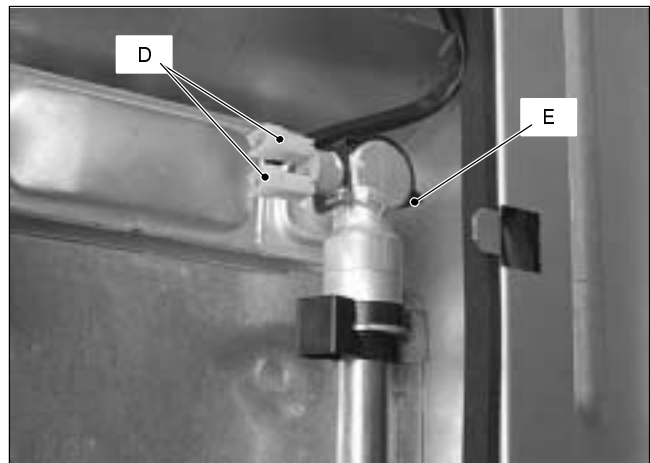

Fig. 80
- 2 Disconnect the wiring *D* (Fig. 80).